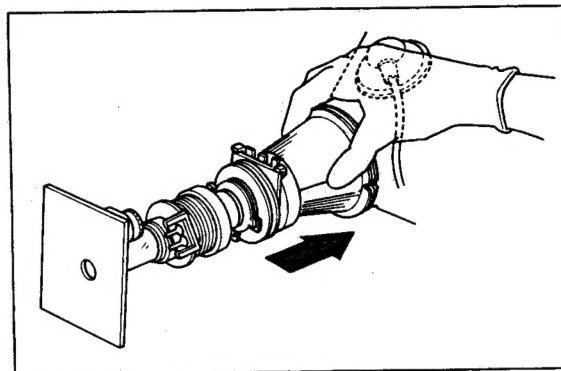

Fig. 3-3. Deflection yoke movement
- (3) Slide the deflection yoke forward as far as it will go against the funnel of the picture tube as shown in Fig. 3-3.